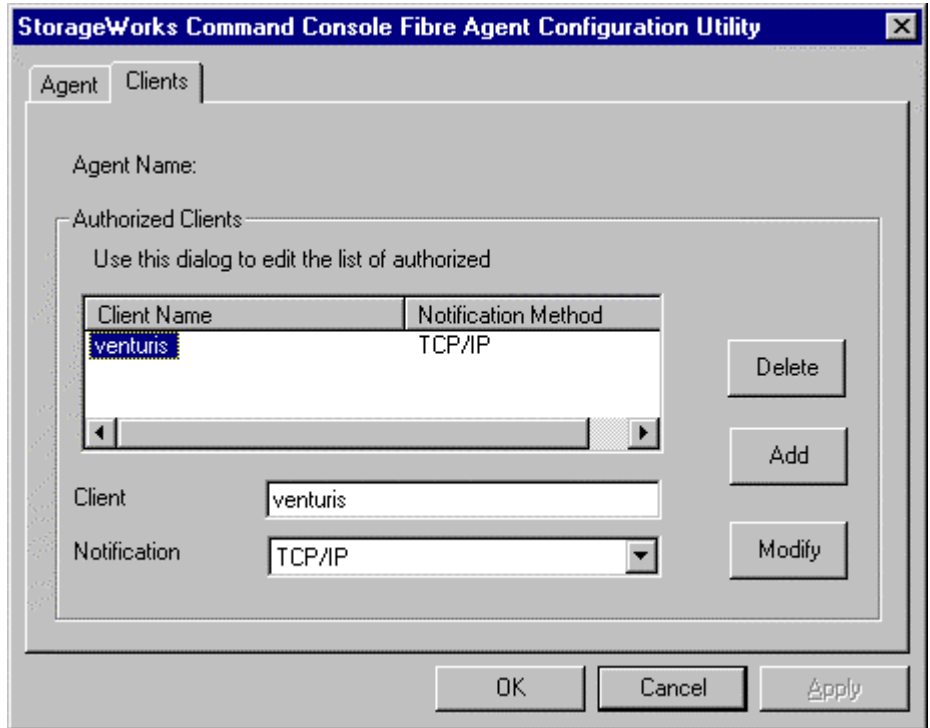

Figure 3-2. SWCC fibre channel agent configuration window - *Clients* tab selected
- When the StorageWorks Command Console Fibre Agent Configuration window appears, click on the *Clients* tab as shown in Figure 3-2.